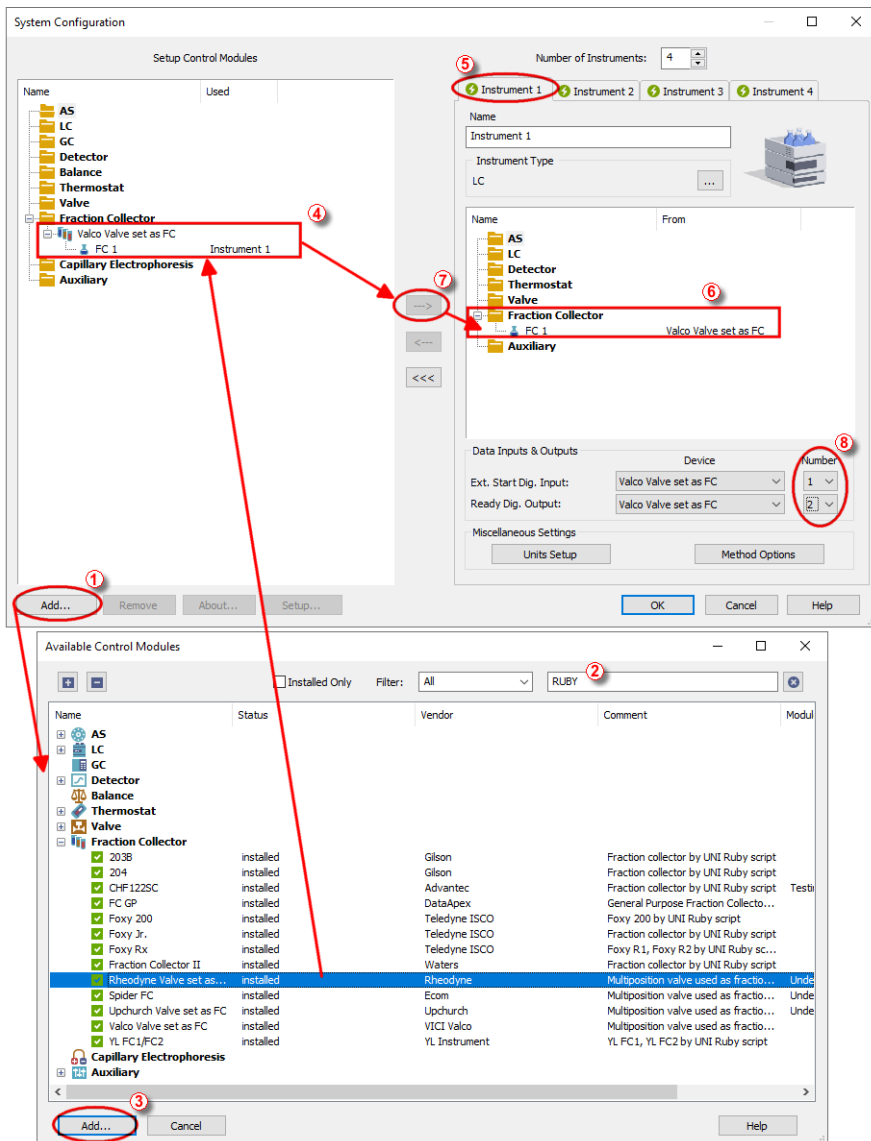

Fig 3: How to Add FC by Vici Valco
- Press the **Add** button (① on **Fig 3** on pg 4.) to invoke the **Available Control Modules** dialog.
- You can specify the search filter (②) to simplify the finding of the driver.
- Select the correct item and press the **Add** (③ on **Fig 3** on pg 4.) button. Each device with already created UNI profile should have its own item named accordingly in the **Available Control Modules** dialog.